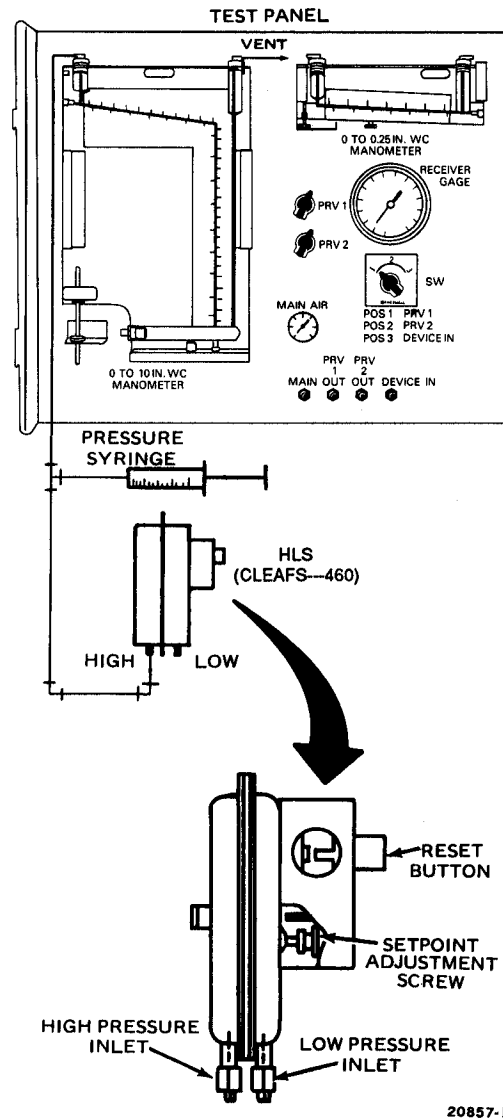

Fig. 8. Test Panel Setup for Static HLS (CLEAFS-460).
1. Pipe HLS per Figure 8. (Pull plunger out on pressure syringe before connecting tubing.)